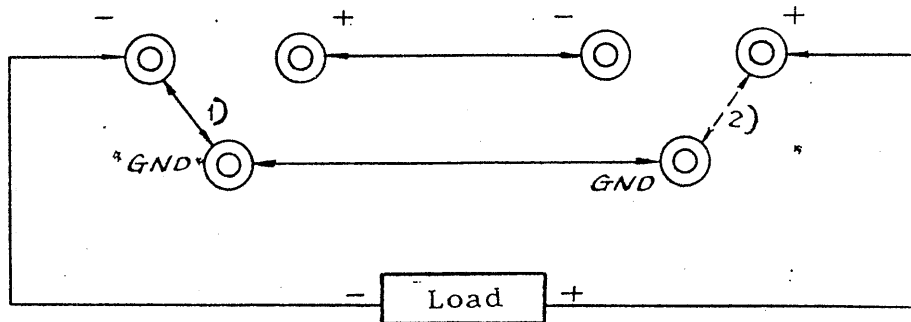

Fig. 4
- 1) Solid line in Fig. 4 for negative grounding
2) Dotted line in Fig. 4 for positive grounding